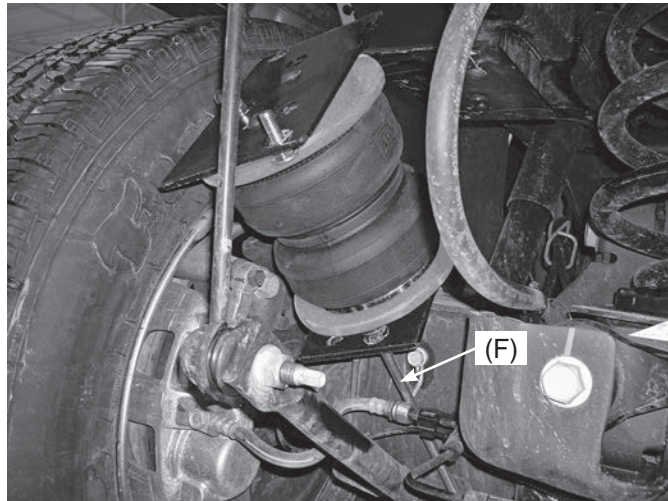

fig. 15
1. With the axle slightly hanging, set the left side (driver) assembly on the axle making sure that the carriage bolt (F) goes in between the brake line and the axle (Fig. 15).